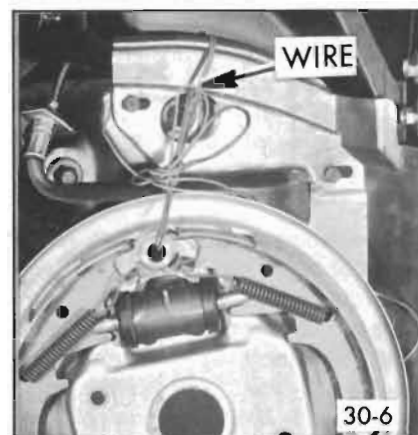

Figure 30-6—Wiring Brake Drum to Provide Clearance
8. Support the brake drum assembly by wiring it to the frame or sheet metal out of way of work area. See Figure 30-6.
2. Remove the brake backing plate. If the backing plate is wired carefully out of the way as shown in Figure 30-6, there will be no need to disconnect the brake hose.